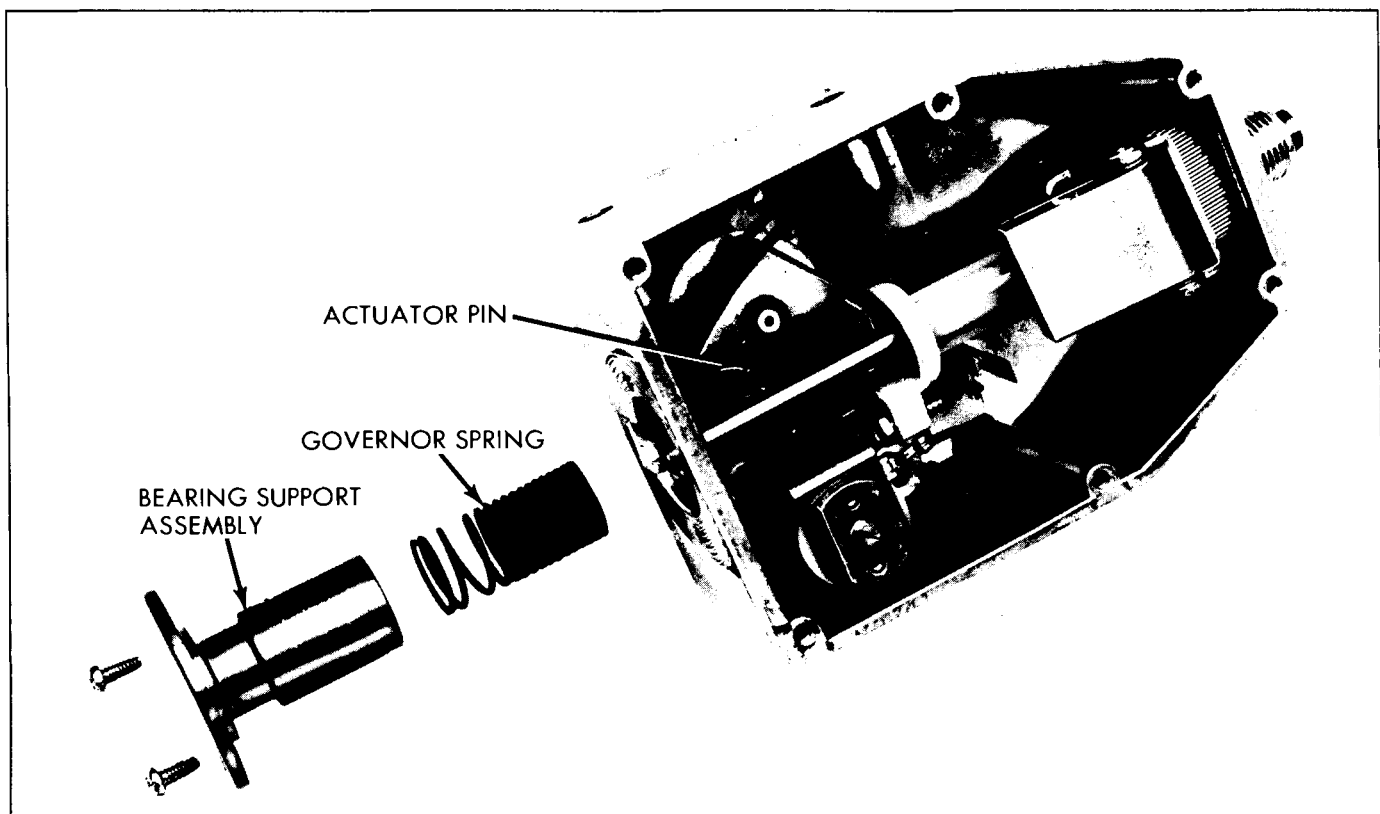
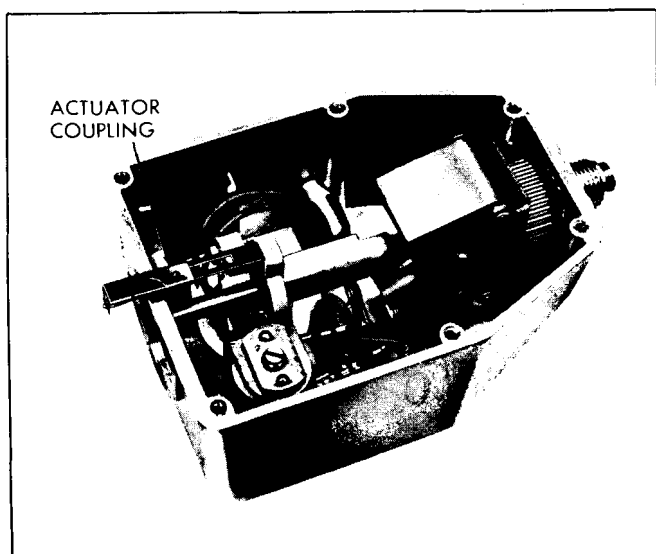

Fig. 15-21 Bearing Support Removal
Fig. 15-22 Governor Assembly Removal
2. Remove two screws securing bearing support, rotate support 180° and slide out (Fig. 15-21).
4. Spread governor weights in an up and down position and pry up on actuator coupling with a screwdriver until pin is disengaged from magnet assembly and can be rotated clockwise (Fig. 15-21). Rotate actuator cup 180° and hook the actuator coupling over the top of regulator housing (Fig. 15-22).